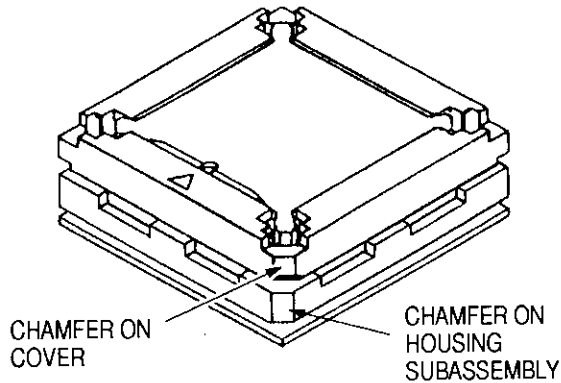

Figure 5
1. Turn the cover-and-PQFP assembly back over and place it onto the housing, making sure that the chamfer on the cover aligns with the chamfer on the housing (see Figure 5).